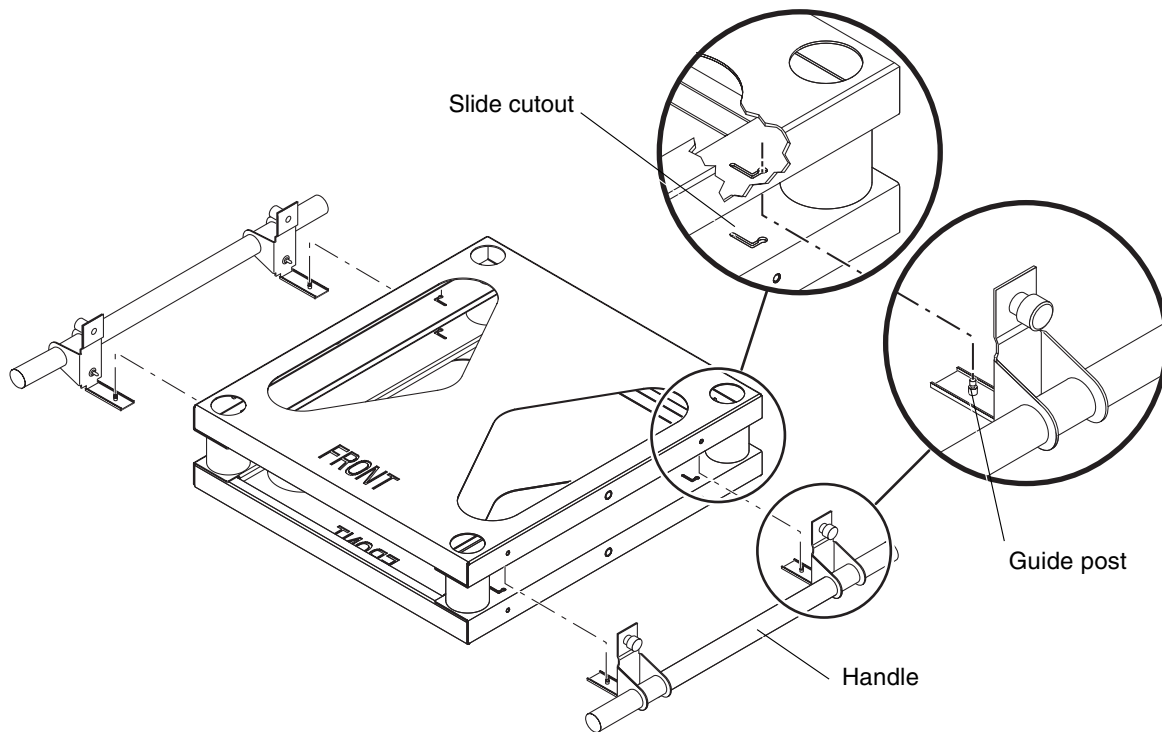
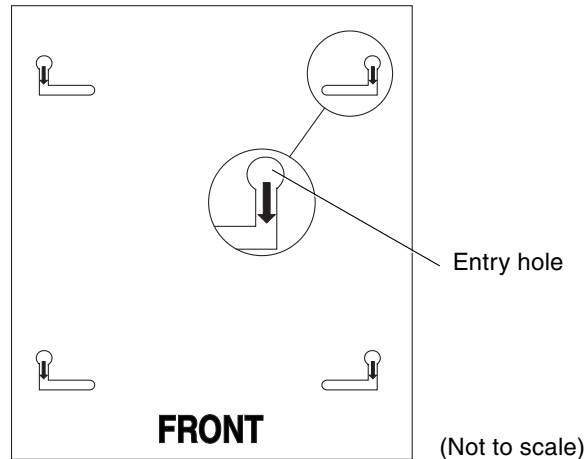

FIGURE 3-5 Shipping Cradle Details
FIGURE 3-6 Slide Cutouts
Note – In the following illustrations, right and left orientation are as you face the word “FRONT” on the base plate (FIGURE 3-5). The top and bottom halves of the base plate are identical. Start with either the top or bottom half facing upward.
- c. Align the two guide posts on the handle with the entry holes on the L-shaped shipping cradle slide cutouts (FIGURE 3-5).
- d. Raise the handle so that the tops of the front and rear guide posts fit into the entry holes in the cutouts (FIGURE 3-5 and FIGURE 3-6).
- e. Slide the handle and guide posts toward the front of the shipping cradle (FIGURE 3-6).
8. **Pull both shipping cradle handles away from the system (FIGURE 3-5).**